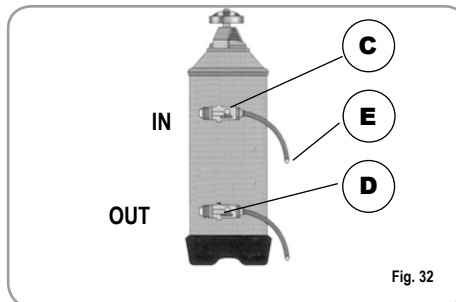

Fig. 32
1) Turn the machine off and place a container large enough to contain at least 5 litres under tube E (Fig. 32).